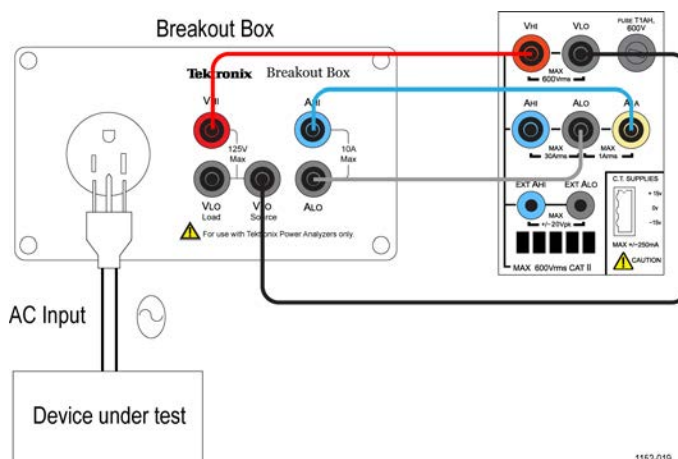

Figure 54: Standby power measurements wiring diagram
- Connect the DUT using a Tektronix Breakout Box (BB1000) as shown in the wiring diagram. (See Figure 54.)